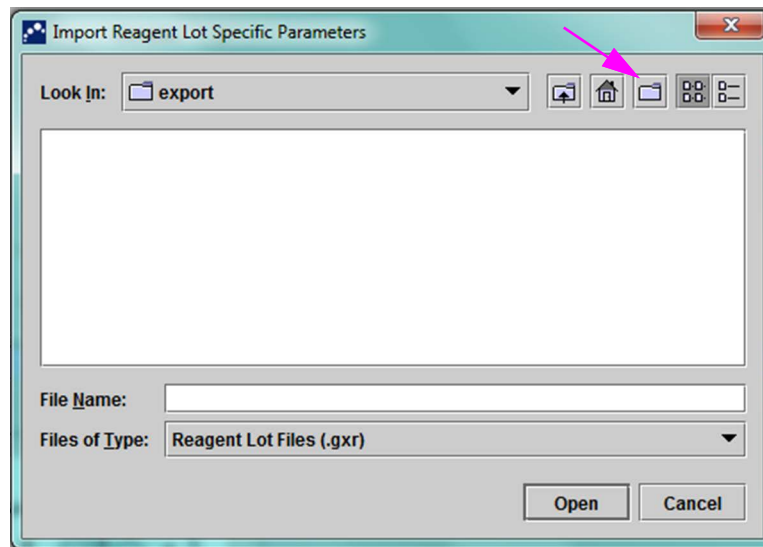
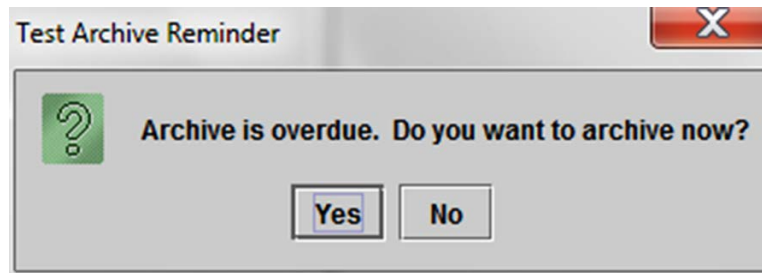

Figure 2-75. Import Reagent Lot Specific Parameters Dialog Box
Figure 2-76. Test Archive Reminder Dialog Box
1. In the Define Assays window (see Figure 2-75), select the assay name in the **Assay** list (on the left side of the window).
2. Click **Lot**. The Reagent Lot Specific Parameters dialog box appears. See Figure 2-76.
Figure 2-76 shows the common Reagent Lot Number before importing specific lots. If assays and/or lot specific parameters have already been imported into the system, the reagent lot numbers will be displayed.
1. In the **Define Assays** window (see Figure 2-75), click **Lot**. The Reagent Lot Specific Parameters dialog box appears. See Figure 2-76.